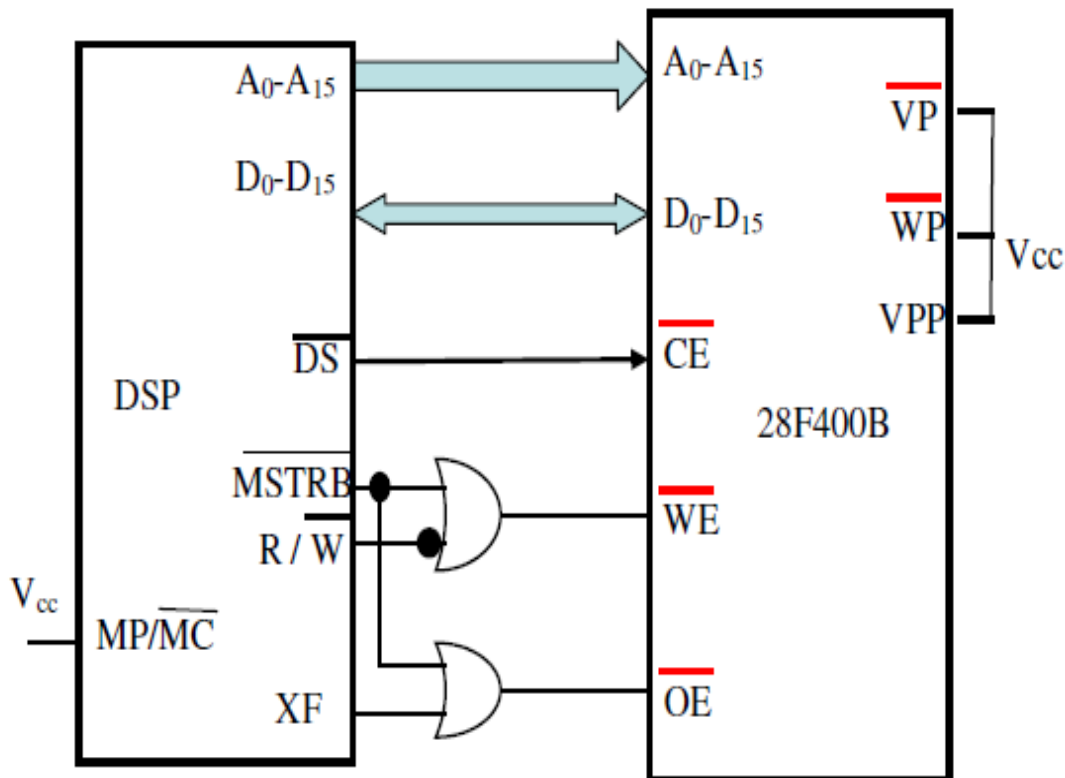

Fig. P7.5: Interfacing flash memory
**PROBLEM NO 7.1:** Design an interface to connect a  $64K \times 16$  flash memory to a TMS320C54XX device. the processor address bus to be used is A0 – A15. The flash memory has the signal as shown in fig.p7.5